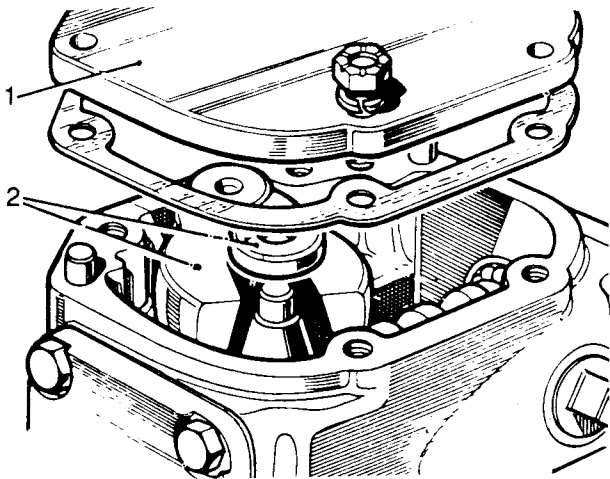

Fig L5.8
- (11) Refer to Fig L5.8. Replace the rocker shaft (2) and refit the roller for the main nut.
- (12) Replace the side cover (1). Coat all cover plate fixing nuts with 'Wellseal' or suitable equivalent sealing compound and tighten to 23 to 28 N.m.